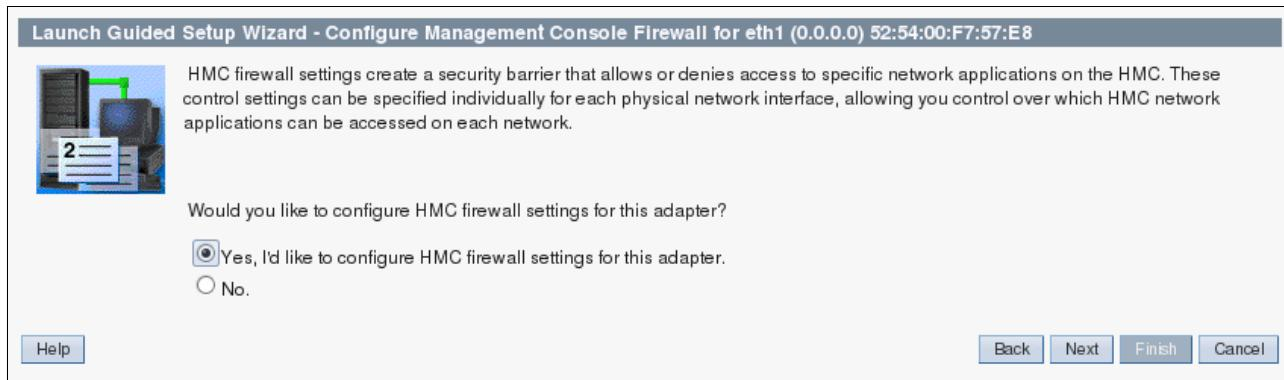

Figure 3-96 Firewall configuration on eth1
25. To configure the HMC firewall rules, select **Yes** (Figure 3-96) and click **Next**.